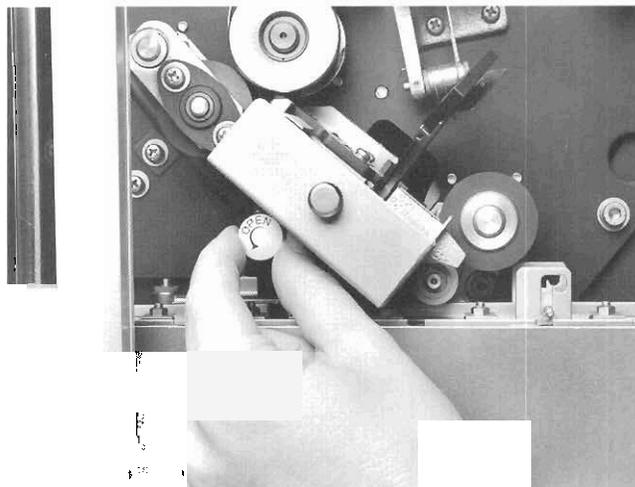

Figure 2-3
12. Fill the xylene line by turning the xylene adjustment knob 2-3 full turns counterclockwise (Figure 2-3) and pressing the XYLENE CHECK keypad until xylene is dripping through the xylene spout without any air bubbles.